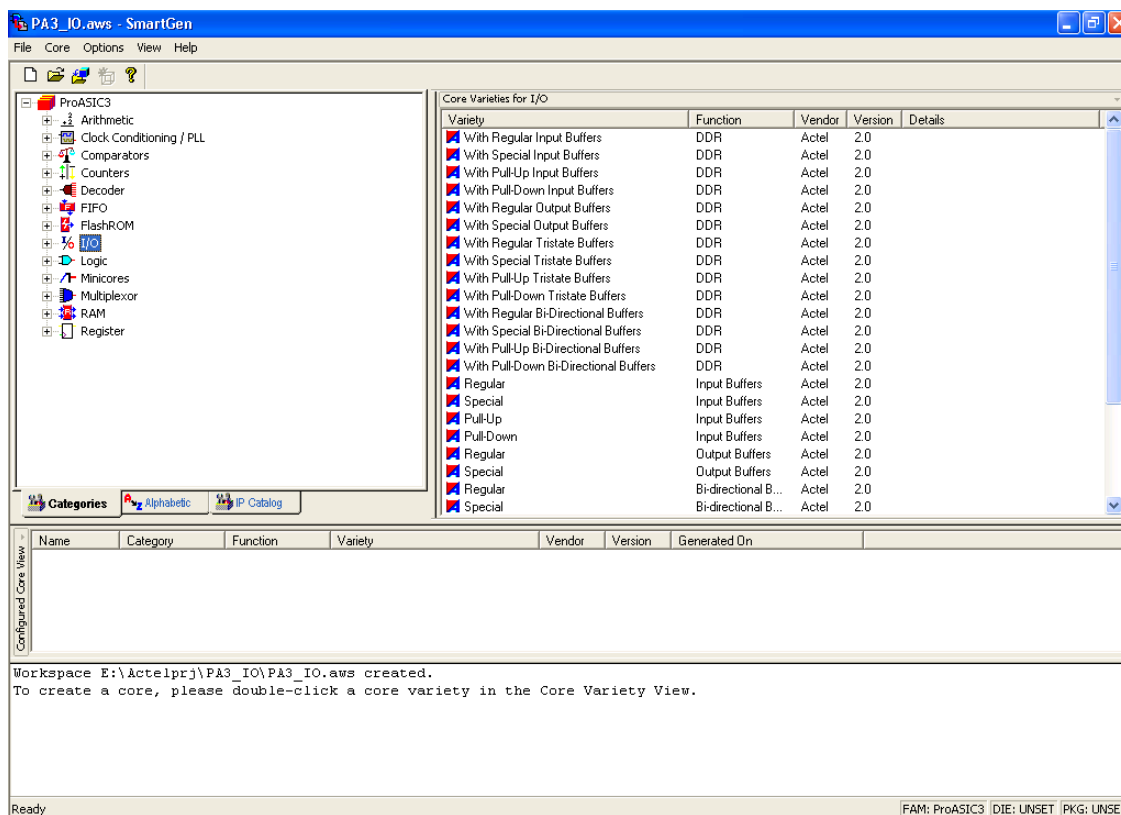

Figure 6 • Selecting an I/O Macro
4. Click the **I/O** icon under the **Categories** tab. All configurable I/O macros will appear in the Core Varieties for I/O box (Figure 6).